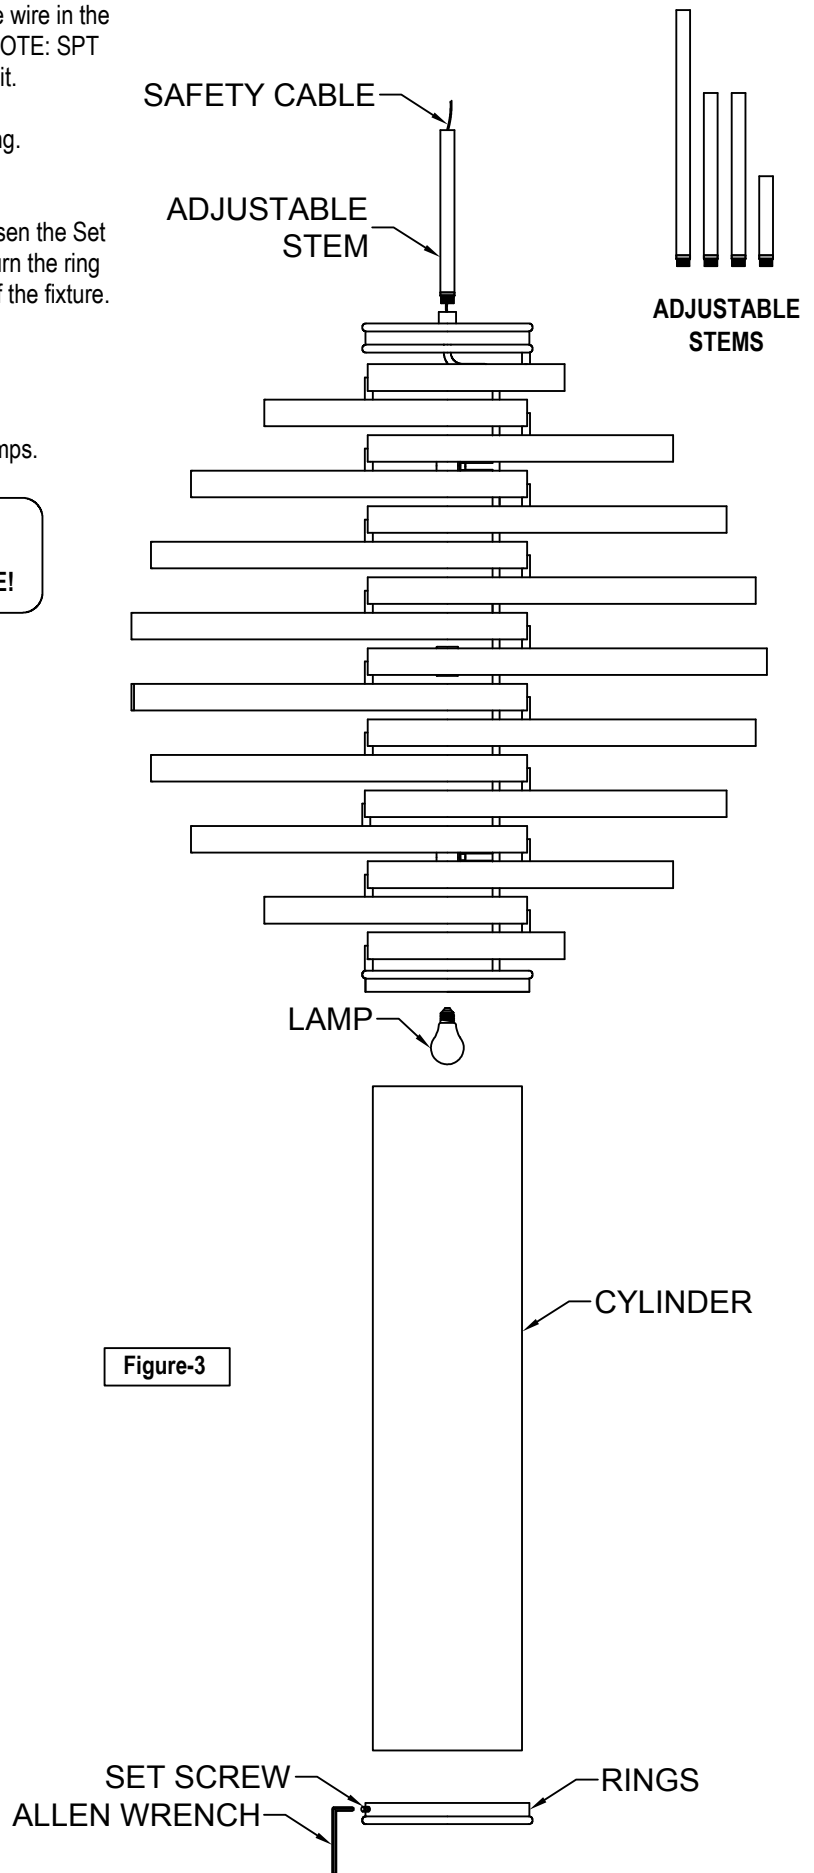

Figure-3
- This fixture is supplied with with a 4-pcs. stem. There is one 6" section, two 12" section and one 18" section. This feature allows the fixture to be mounted with a stem up to 48" in length in 6" increments (See Figure-3).